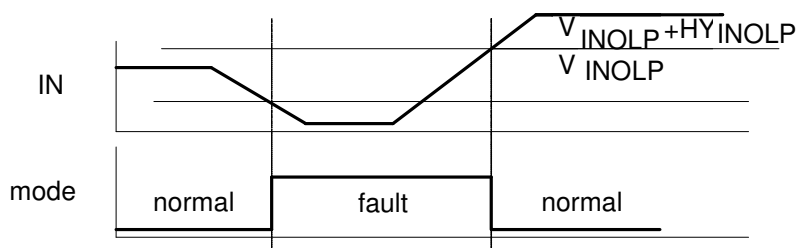

Figure 6: Output Open Loop Protection
2. Open loop protection (OLP) is activated when the voltage at pin IN falls below V_{INOLP} , or there is an insufficient input voltage for normal operation. This function can be used for external disable of the IC (figure 6).